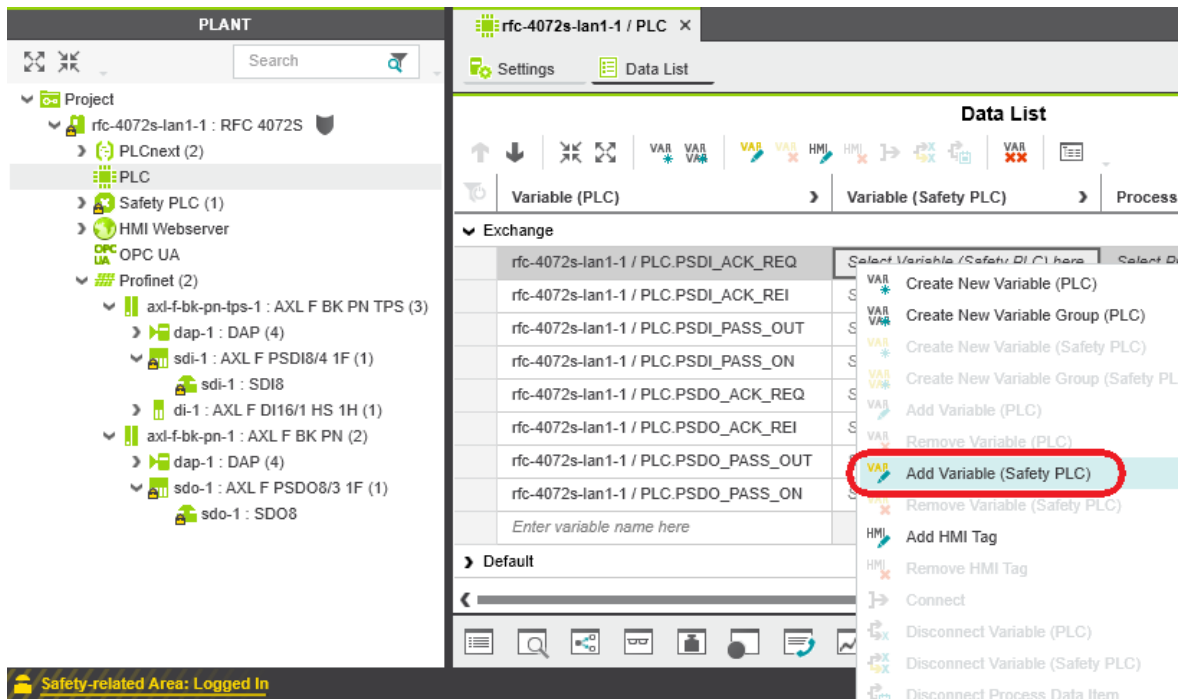

Figure 4-49 “Add Variable (Safety PLC)” context menu
- In the “Variable (Safety PLC)” column, select “Add Variable (Safety PLC)” in the context menu for each variable you created earlier in turn (see Figure 4-49).